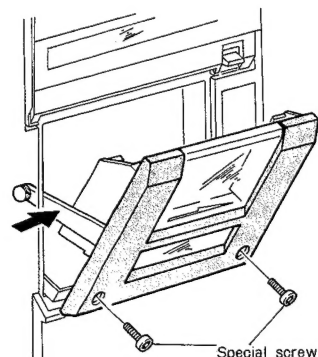

Fig. 5
- 1) Remove the two screws and take off the cassette cover. (See figure 5)